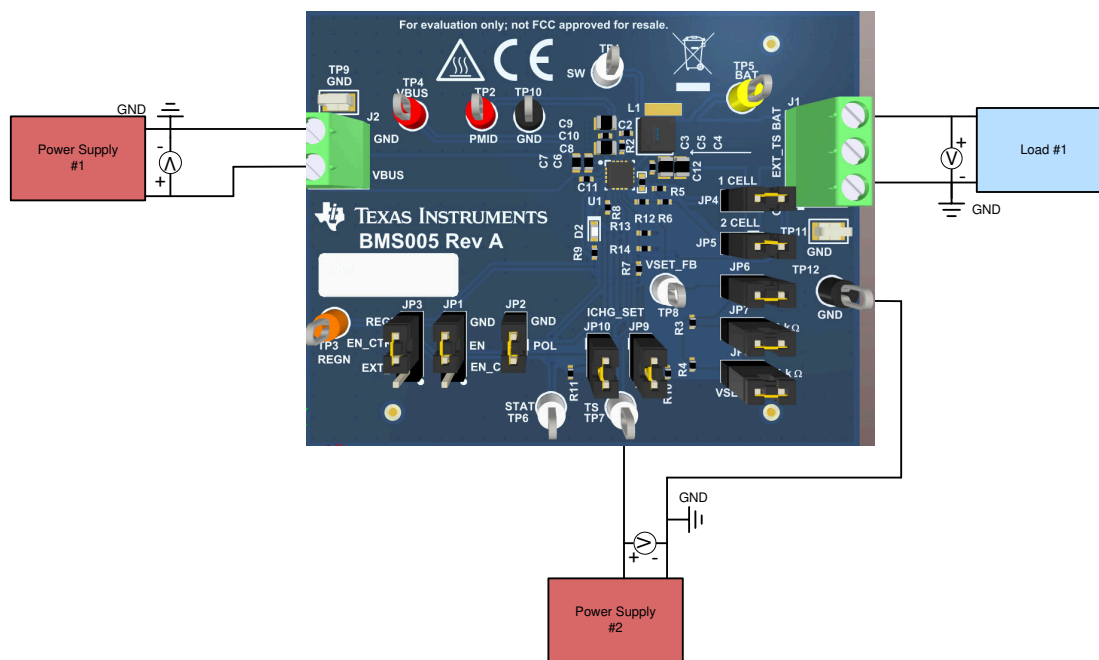

Figure 2-1. Original Test Setup for BMS005
4. Connect the output of PS1 to J2 (VBUS and PGND) as shown in Figure 2-1.
6. Turn on Load #1 as shown in Figure 2-1, set to constant voltage mode, and output to 2.5 V. Disable Load.
7. Connect one voltage meter across TP5 (BAT) and TP11 (PGND) or across J1-3 and J1-1 as shown in Figure 2-1.
9. Connect the output of PS2 to TP7 (TS) and TP12 (PGND) as shown in Figure 2-1.